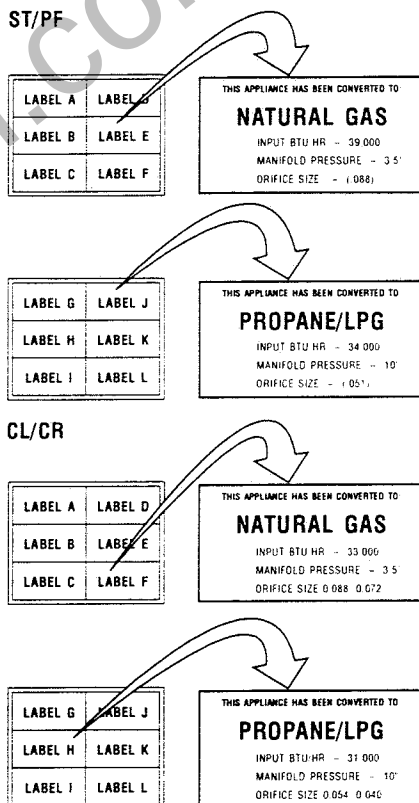

Figure 65
Step 10. Attach conversion kit label to the rating plate on the appliance. See Figure 65 for labeling details.